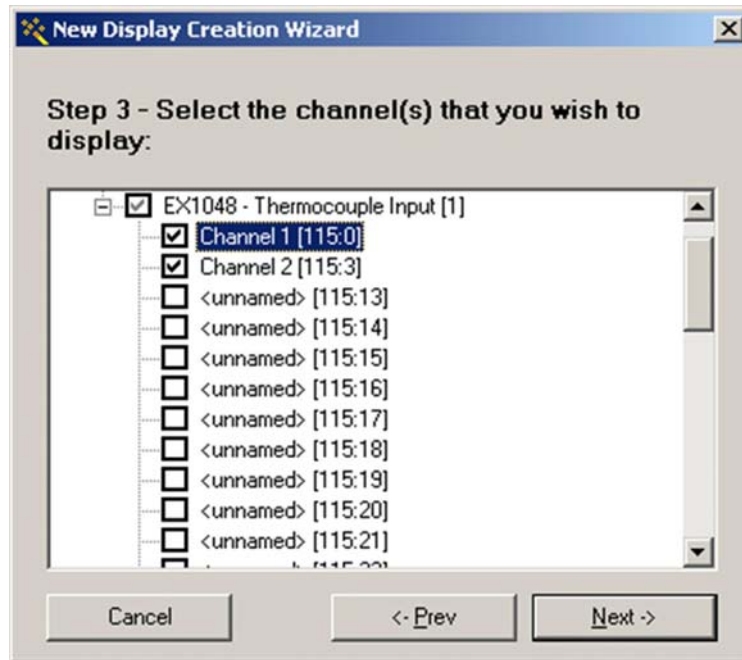

FIGURE 3-12: NEW DISPLAY CREATION WIZARD WINDOW – STEP 3
- 4) Select the channels to be displayed and click **Next** button (see Figure 3-12).